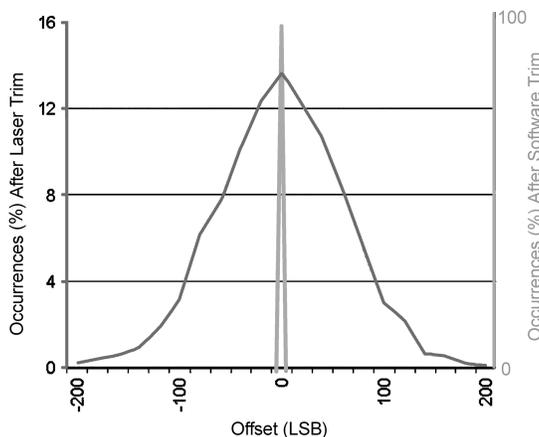

Figure 6-5. Offset Distribution Histogram including Soft-Trim Improvement
Figure 6-5 shows the LM96511 B-mode offset, measured through the ADC. As can be seen, Soft-trim allows extremely accurate offset adjustment (typically within 1LSB) and allows significant tightening of the distribution.
Figure 6-5 shows the LM96511 B-mode TGC in action. In this diagram, a 5MHz ultrasound signal enters the LNA with 350mV_{PP} single ended Near Field (NF) amplitude and the signal path headroom runs into clipping. 3.5V_{PP} differential NF amplitude appears at the LNA output (Differential gain = 20dB) where the DVGA TGC will equalize the signal so that the ADC FS range of 3.12V_{PP} (with IOR On or 4.4V_{PP} with IOR off) can be transversed to maximize the data acquisition resolution. Note that the LM96511's B-mode ADC operates off a 1.2V supply and yet can accommodate 3.12V_{PP_FS} with IOR on or 4.4V_{PP_FS} with IOR off. This is because of the coupling resistor ladder built into the ADC in spite of ADC input noise level performance which does not impact ENOB.